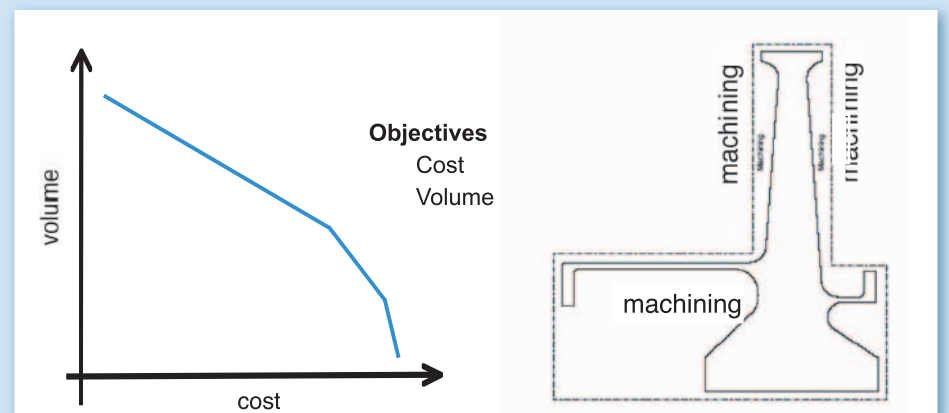

Fig.6 Manufacturing cost optimization
- Manufacturing cost optimization (Abhi Rao – Fig.6)